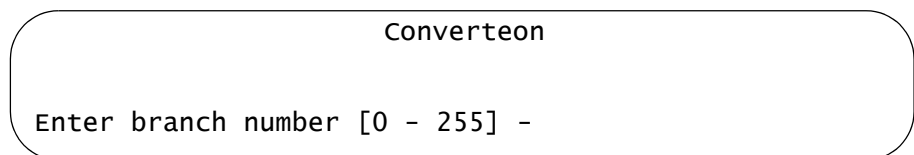

Figure 118. Enter Branch Number Prompt
5. From the OAM Configuration Menu, select **Send OAM Variable Request**. The prompt in Figure 118 is displayed.